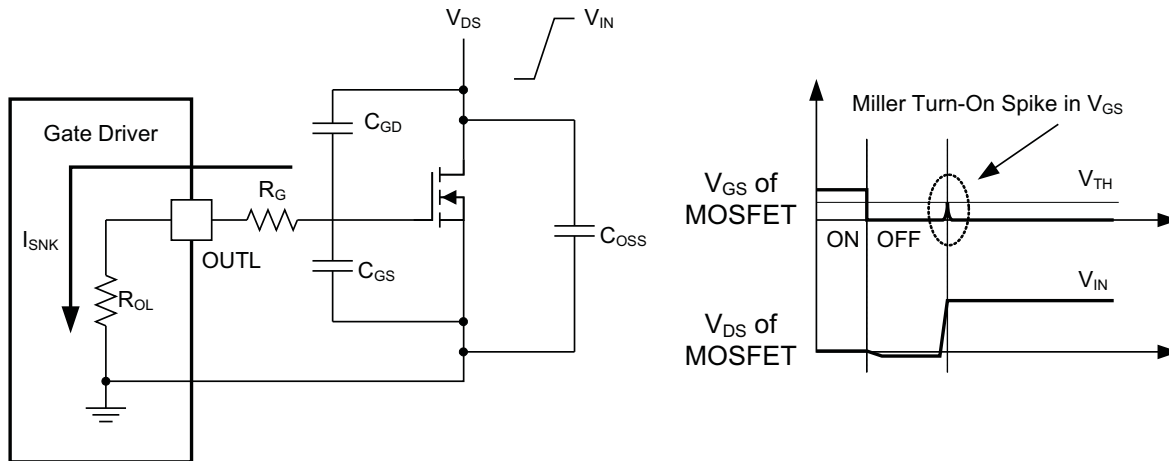

Figure 24. Very Low Pull-Down Impedance, 4-A/8-A Asymmetrical Drive (output stage mitigates Miller turn on effect)
An example of a situation where Miller turn on is a concern is synchronous rectification (SR). In SR application, the dV/dt occurs on MOSFET drain when the MOSFET is already held in off state by the gate driver. The current discharging the C_{GD} Miller capacitance during this dV/dt is shunted by the pull-down stage of the driver. If the pull-down impedance is not low enough then a voltage spike can result in the V_{GS} of the MOSFET, which can result in spurious turn-on. This phenomenon is illustrated in Figure 24. UCC27512 offers a best-in-class, 0.375- Ω (typ) pull-down impedance boosting immunity against Miller turn on.